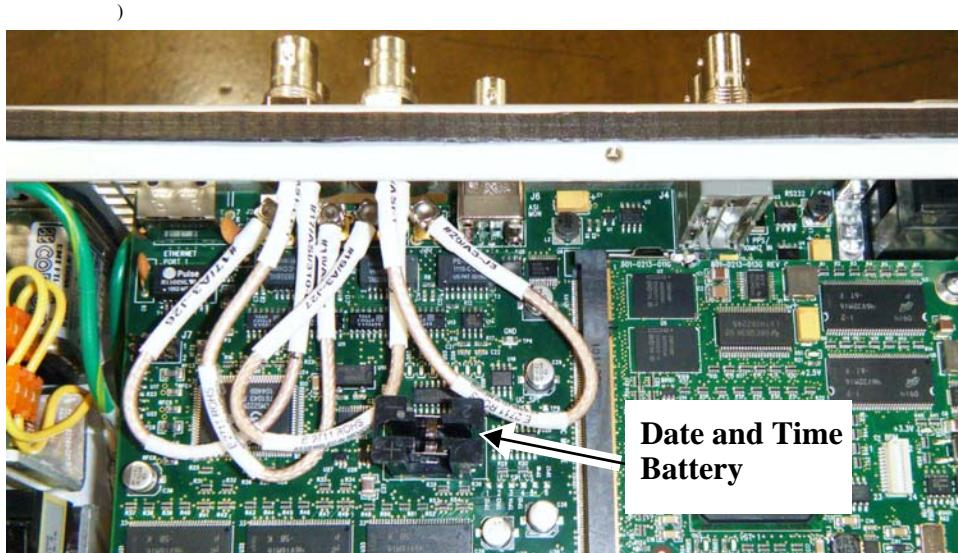

Figure 5-9 Date and Time Battery Location
STEP 4 Remove the old battery and insert a new battery with positive side toward clip. Battery slides out from under the clip. See Figure 5-9 for battery location.